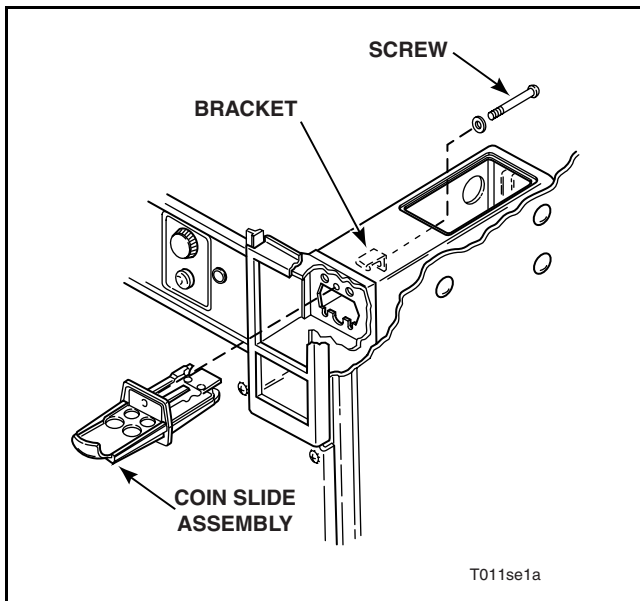

Figure 12
- e. Remove two capscrews holding accumulator bracket to service door. Refer to *Figure 12*.
- f. From back side of tumbler, remove screw holding coin slide assembly to bracket on inside of meter case. Refer to *Figure 12*.